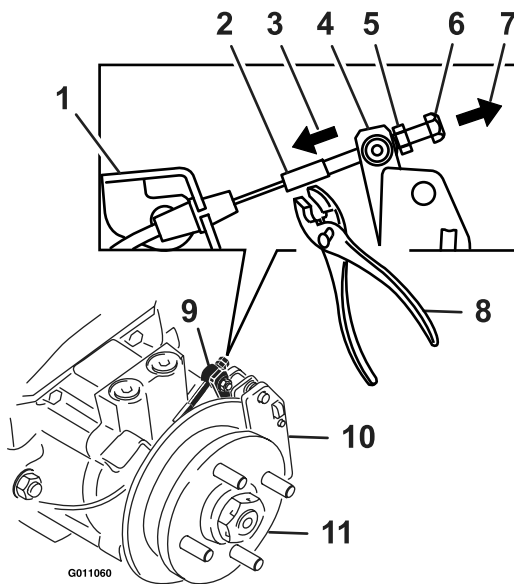

Figure 29
9. Hold the threaded rod end with a tool and loosen the lock nut away from the standard nut (see Figure 29). Do Not allow the cable to turn when the nuts are being loosened.
10. Remove all slack from cable by pulling on the caliper lever arm with a medium amount of force. Using hands and fingers only, push the caliper lever arm to engage the brake pads on the rotor until the lever stops. While holding the lever at the stopped position, use the other hand or fingers to pull the slack out of the cable threaded end through the swivel. Spin the standard nut against the swivel (see Figure 29).